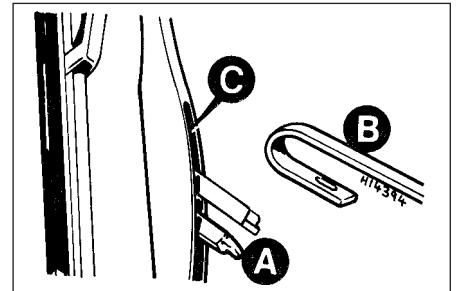

Fig. 9.5 Windscreen wiper blade fixing (Sec 24)
- wiper arm. The blade can then be withdrawn, passing the wiper arm hook through the slot (C) in the blade stretcher (Fig. 9.5).